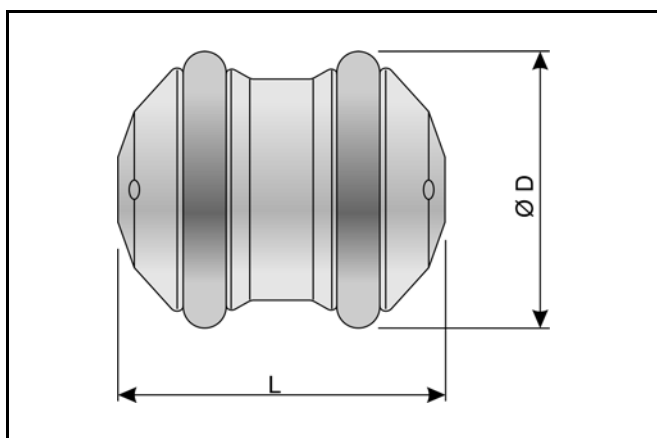

Fig. 7 - Dimensional drawing of the TWIN 3 pig
- Check dimensions according to Fig. 7 and Table 3 retighten, if necessary.